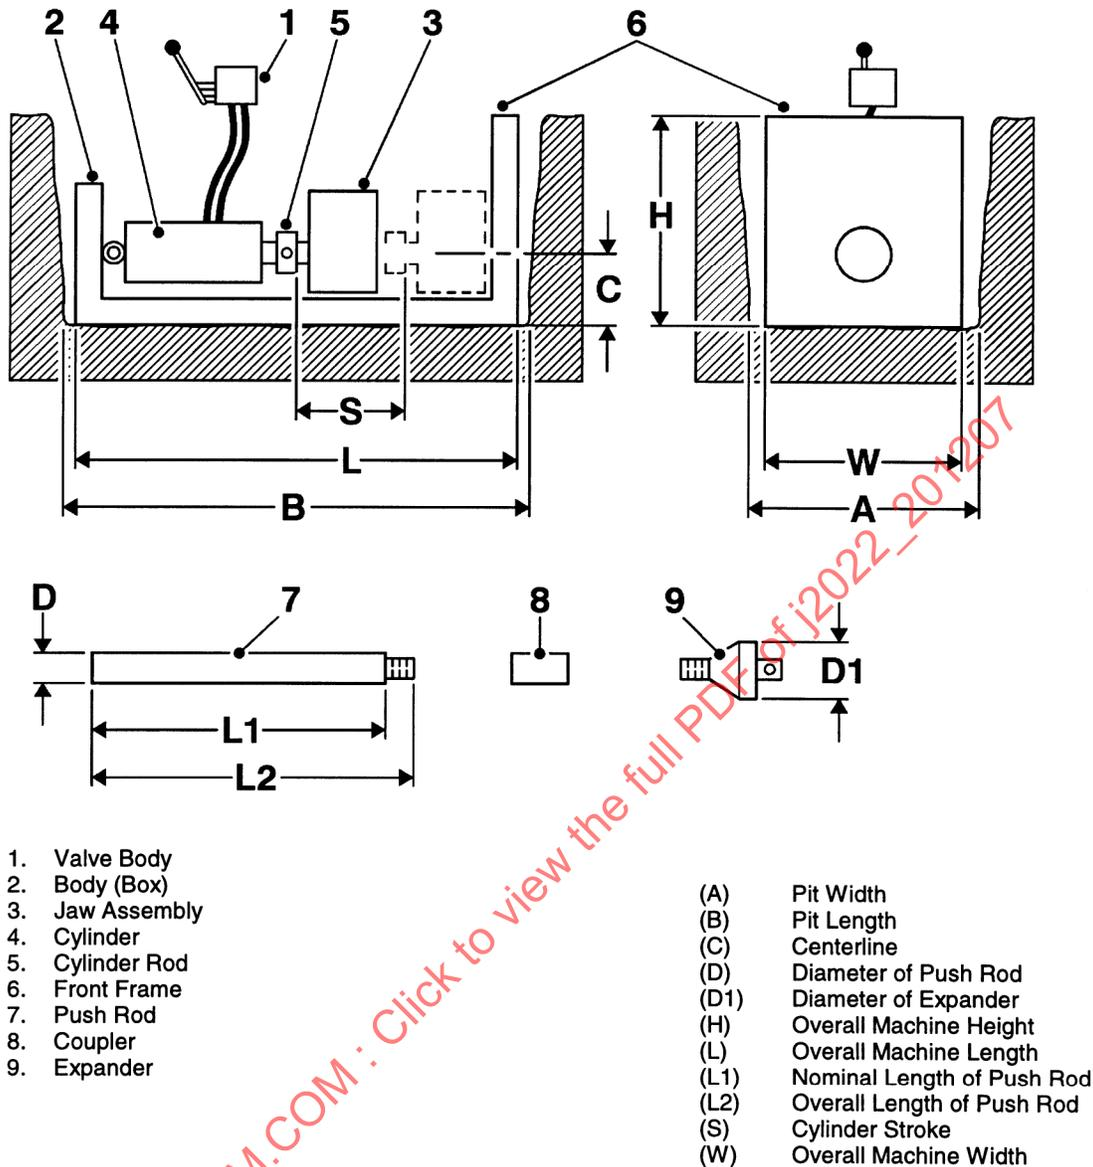

FIGURE 3—ROD PUSHER—SIDE VIEW, END VIEW
- 4.2.1 NOMENCLATURE—(Refer to Figure 3.)